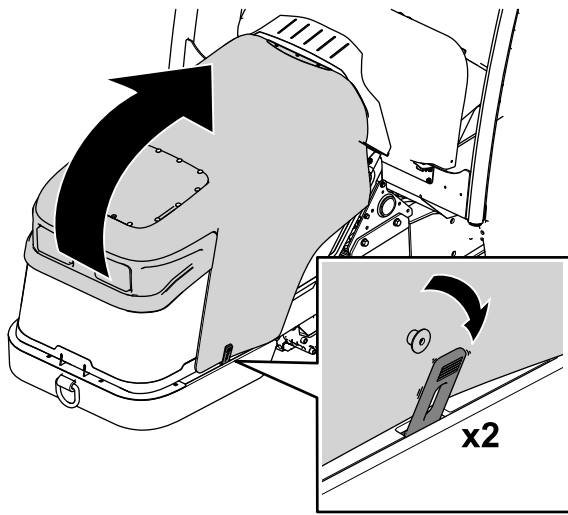

Figure 68
1. Release the straps from each side of the machine (Figure 68).
2. Raise the hood (Figure 68).